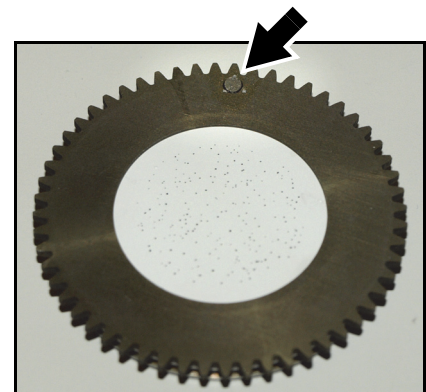

Figure 20: Goboholder magnet
5. See Figure 20. Rotate the goboholder until its magnet (arrowed) lines up with a reference point that you choose on the module frame. Remove and insert any gobos you replace one by one, with the goboholder magnets lined up with your reference point, and avoid rotating the gobo wheel while a gobo is removed. This will keep gobos in the orientation they were designed for and avoid the need to reprogram the controller because a gobo orientation has changed during service.